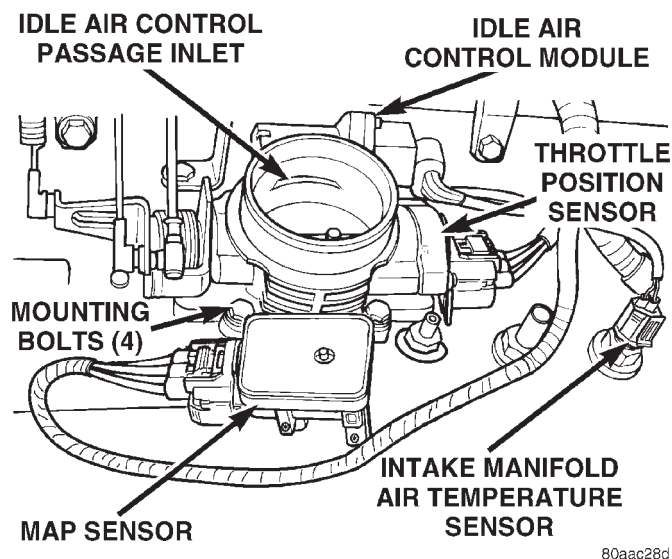
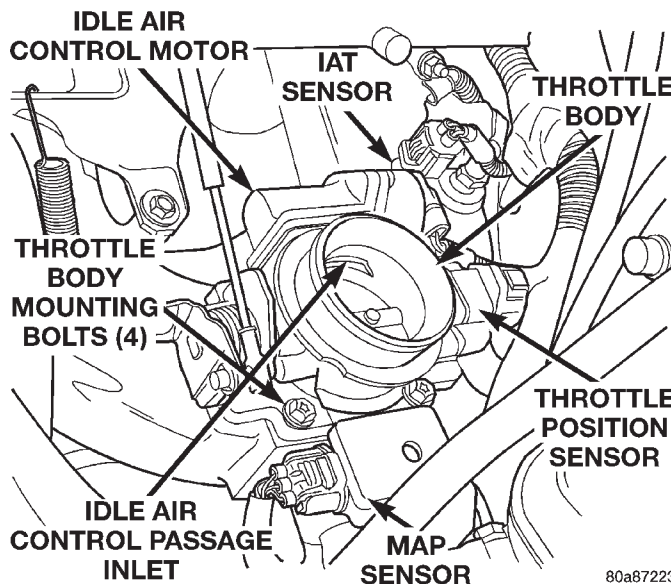
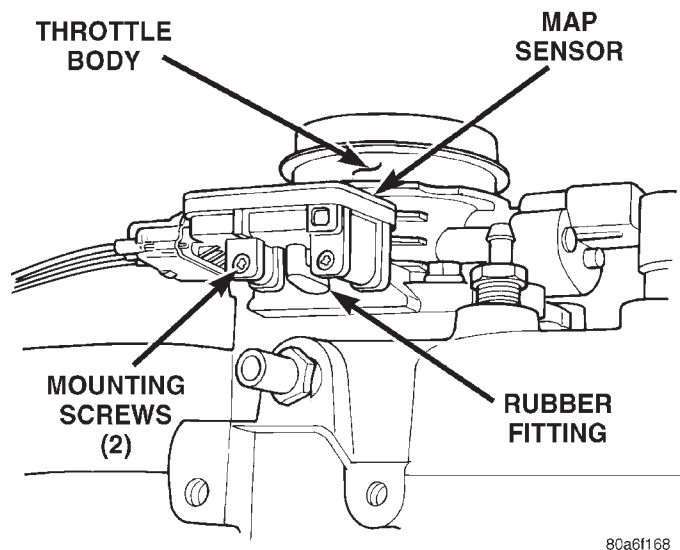

Fig. 41 Throttle Body and Sensor Locations—4.0L Engine
Fig. 42 Throttle Body and Sensor Locations—2.5L Engine
Fig. 46 MAP Sensor Mounting
- (1) Remove air cleaner tube at throttle body.
- (2) Disconnect throttle body electrical connectors at MAP sensor, IAC motor and TPS (Fig. 41) or (Fig. 42).
The TPS is mounted to the throttle body (Fig. 41) or (Fig. 42).
The IAC motor is located on the side of the throttle body (Fig. 41) or (Fig. 42).
The MAP sensor is mounted to the side of the throttle body (Fig. 41) or (Fig. 42). An L-shaped rubber fitting is used to connect the MAP sensor to throttle body (Fig. 46).
- (1) Remove air cleaner intake tube at throttle body.
- (2) Remove two MAP sensor mounting bolts (screws) (Fig. 46).
- (3) While removing MAP sensor, slide the rubber L-shaped fitting (Fig. 46) from throttle body.
- (4) Remove rubber L-shaped fitting from MAP sensor.